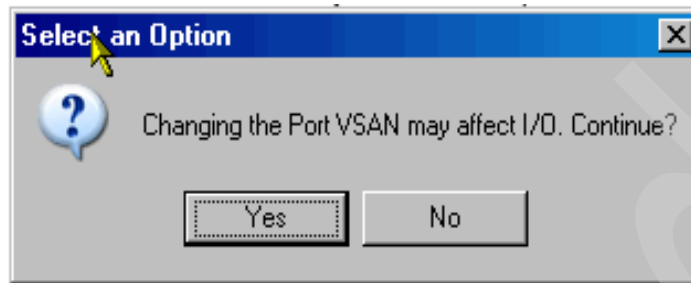

Figure 6-40 Confirm to change the Port VSAN
3. We are presented with a warning that changing the Port VSAN might be disruptive to I/O on the port, and we confirm that we want to perform the change, as shown in Figure 6-40.